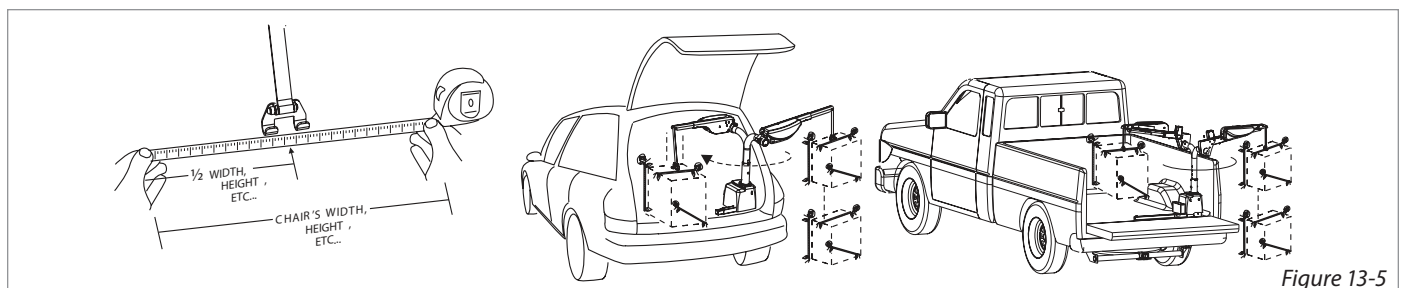

Figure 13-5
- 4. Simulate each of the chair's dimensions** (length, width and height) while running the lift through its full range of motion in and out of the cargo area. [Figure 13-5 Bottom]